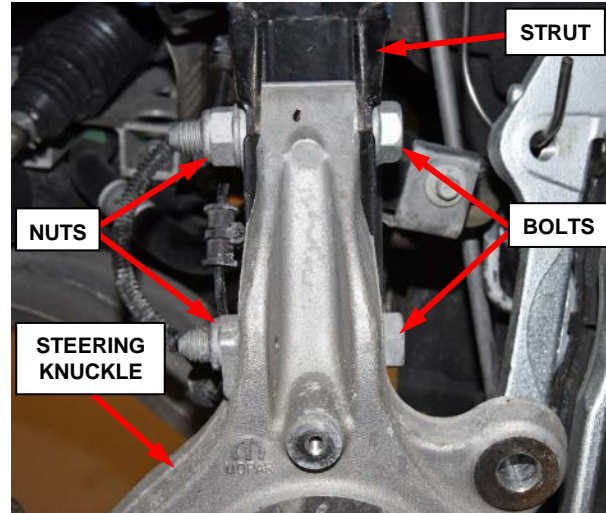

Figure 12 – Strut Mounting Bolts
14. Remove and SAVE the two nuts and bolts securing the suspension strut to the steering knuckle (Figure 12).
38. Position the steering knuckle to the suspension strut, then install the strut mounting bolts and nuts (Figure 12).